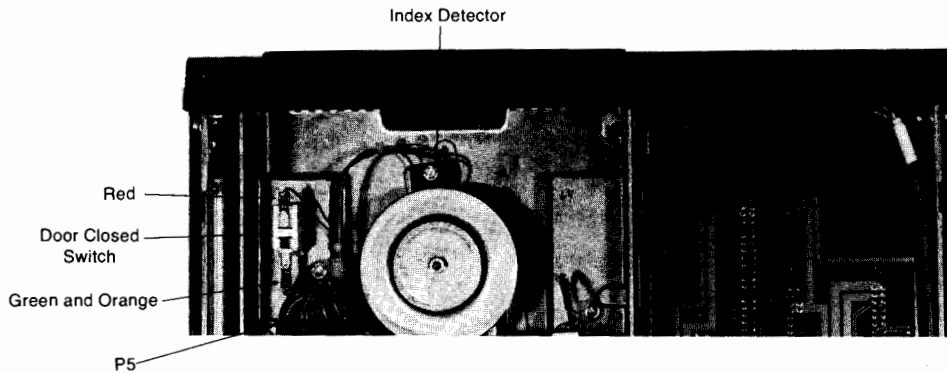

Figure 3-9. Removing the Index Detector
2. Remove the wires from the door closed switch (see Figure 3-9).